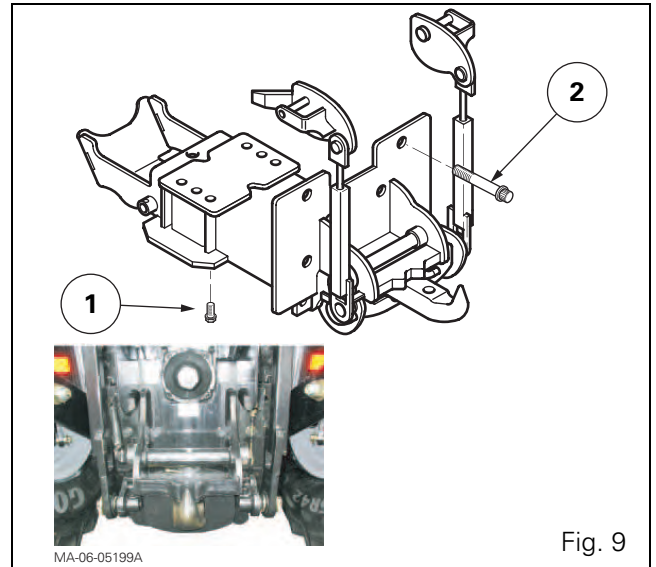

Fig. 9
14. Clean the screws (1) (2) (Fig. 9) and their tapped holes on the centre housing. Dry them using a jet of compressed air.